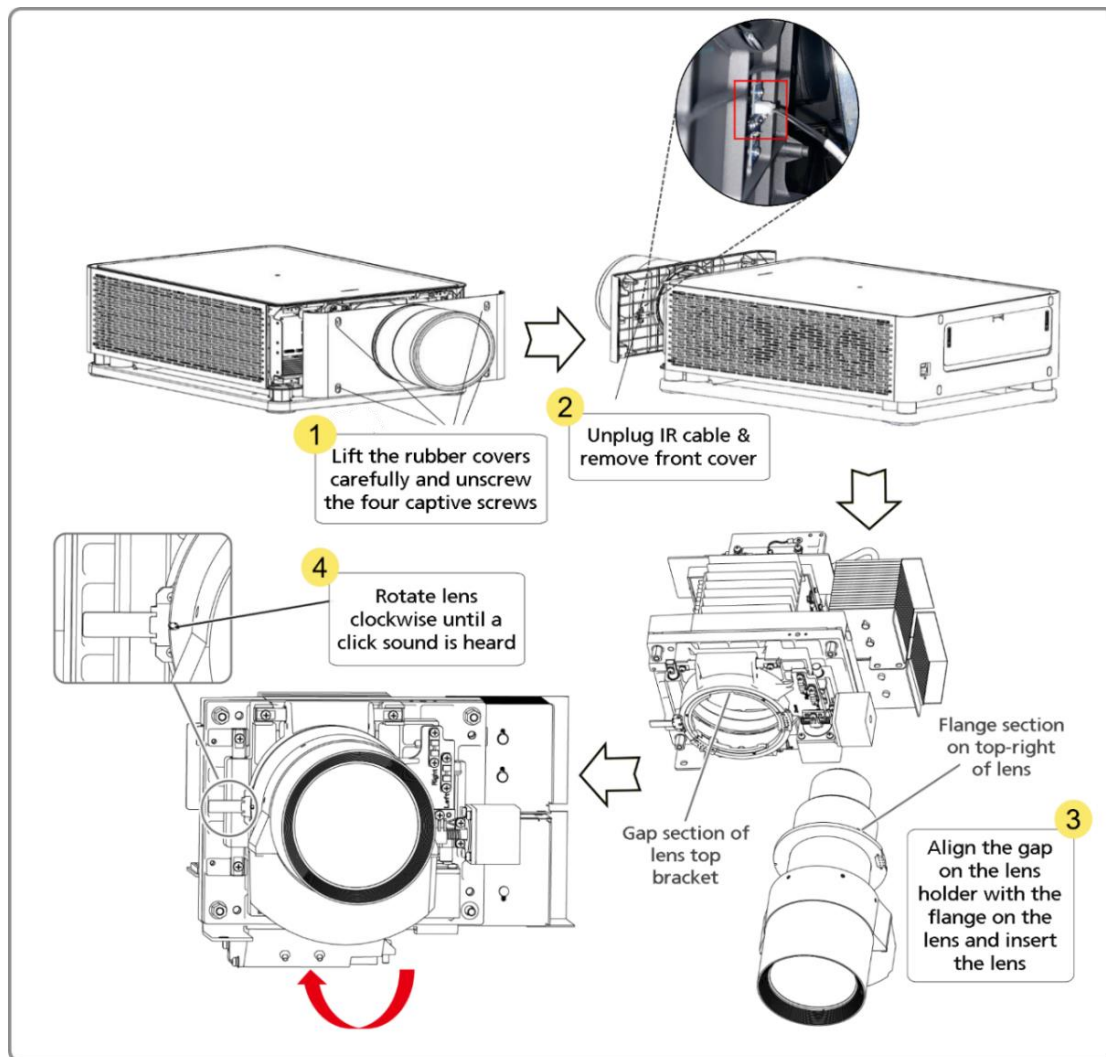

Figure 10: Lens Installation
- As shown in **Figure 10**, align the top right flange of the lens with the top notch on the lens bracket. Send the projection lens into the bracket slowly. Overlap the flange surface and the bracket front surface tightly, turn the projection lens clockwise, you will hear a click sound after about 60° rotation and the positioning pin on the left side of the bracket will come out of the positioning holes on the flange of the projection lens (refer to Step ④ in **Figure 10**), which indicates the projection lens is installed. When the installation is finished, there should be no gap between the flange surface of the lens and the bracket front surface.
- When tightening the lens clockwise, make sure to see the positioning column (refer to Step ④ in **Figure 10**), on the left side of the lens rack eject from the hole on the left side of the lens flange. Otherwise, it may slip from the lens rack during use.